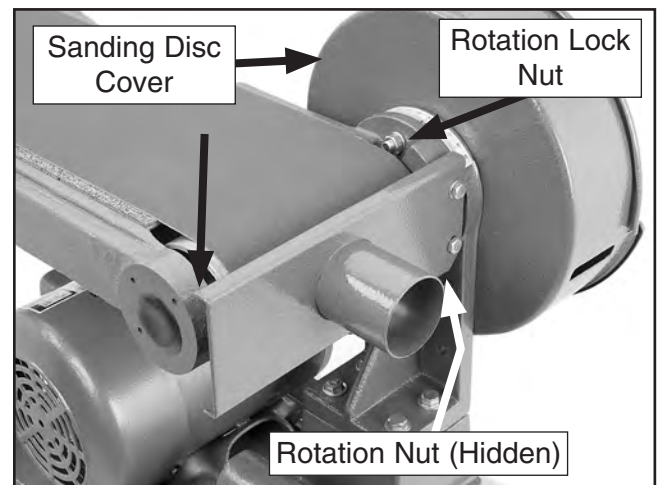

Figure 56. Table tilted to horizontal position.
2. Loosen the sanding frame rotation lock nuts (behind the sanding disc cover), rotate the frame to the horizontal position, as shown in **Figure 56**, then tighten the rotation lock nuts.